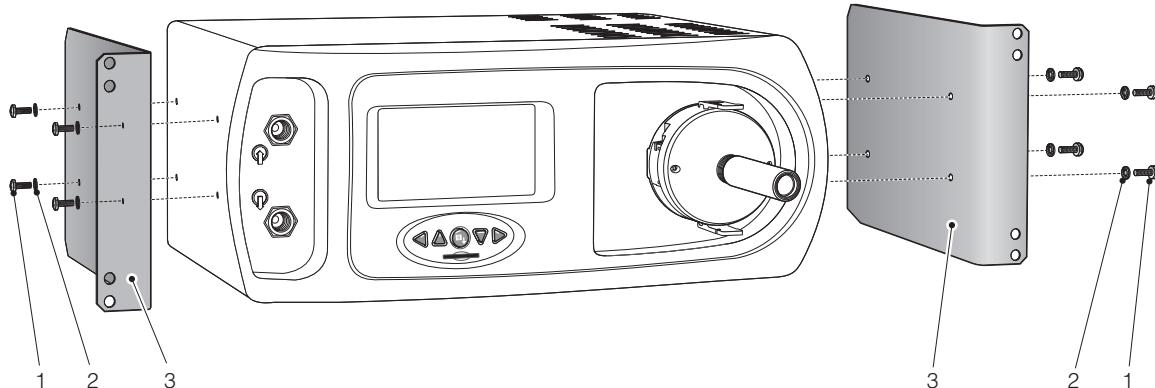

Figure 14      *Conversion of Horizontal to Rack Mount*
This conversion pack comprises two steel wings (3) and eight cap screws (1), each wing bolting to the side of the instrument with four screws as shown in *Figure 14*.